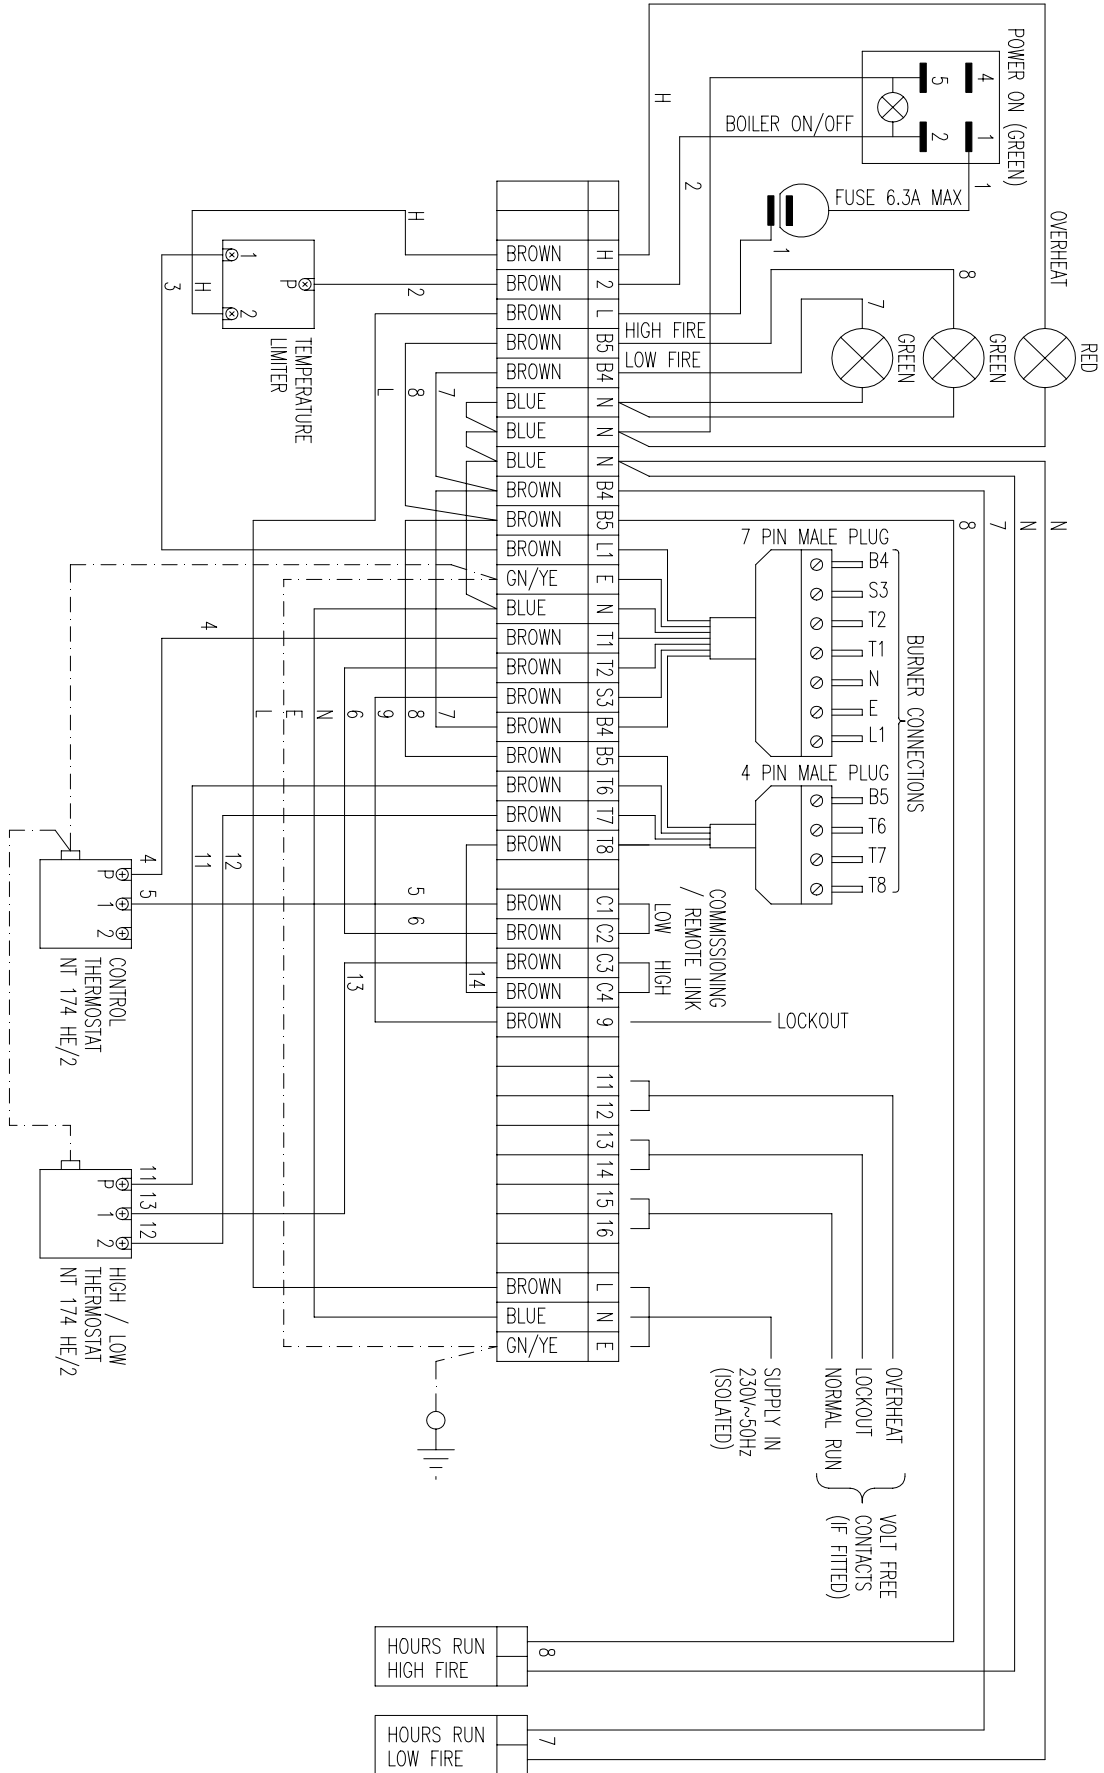

Figure 5.4.1 - Electrical Schematic
5.3.8. Having routed cables, fit 4 way and 7 way plugs to 4 core and 7 core cables carefully following wiring diagram shown in Fig. 5.4.1 on page 16 of this manual.